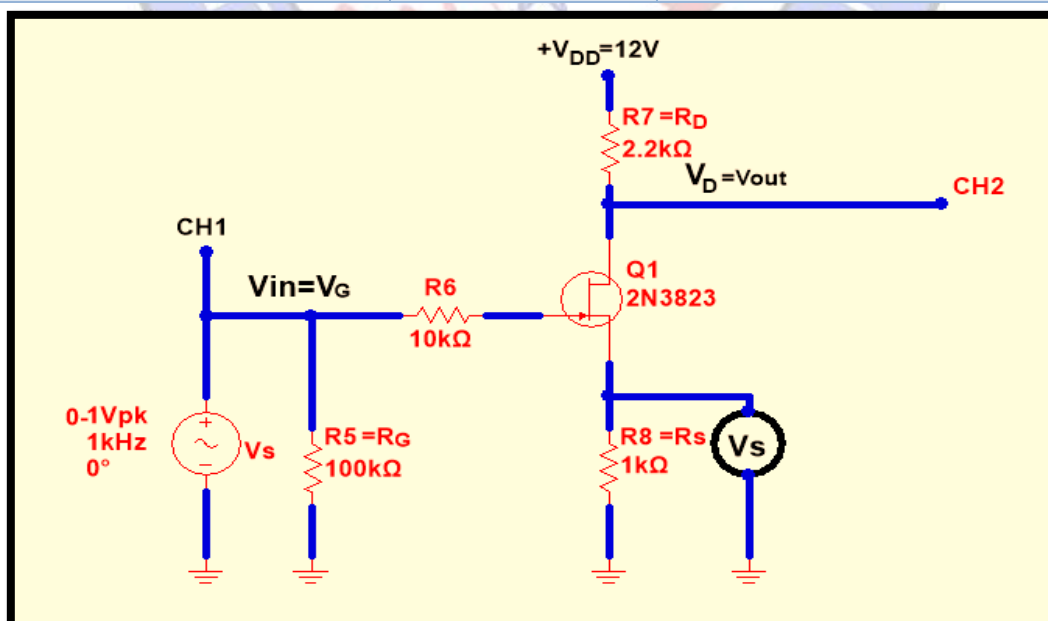

Figure 7: The Practical Common-Source Amplifier Circuit
4. Connect the amplifier circuit shown in Fig.7. Sketch the input ( $V_S$ ) and output ( $V_D$ ) signals and determine the voltage gain of the circuit in three cases as illustrated in Table-3.
3. Determine the DC power dissipation in the JFET connected in the amplifier circuit of Fig.7.